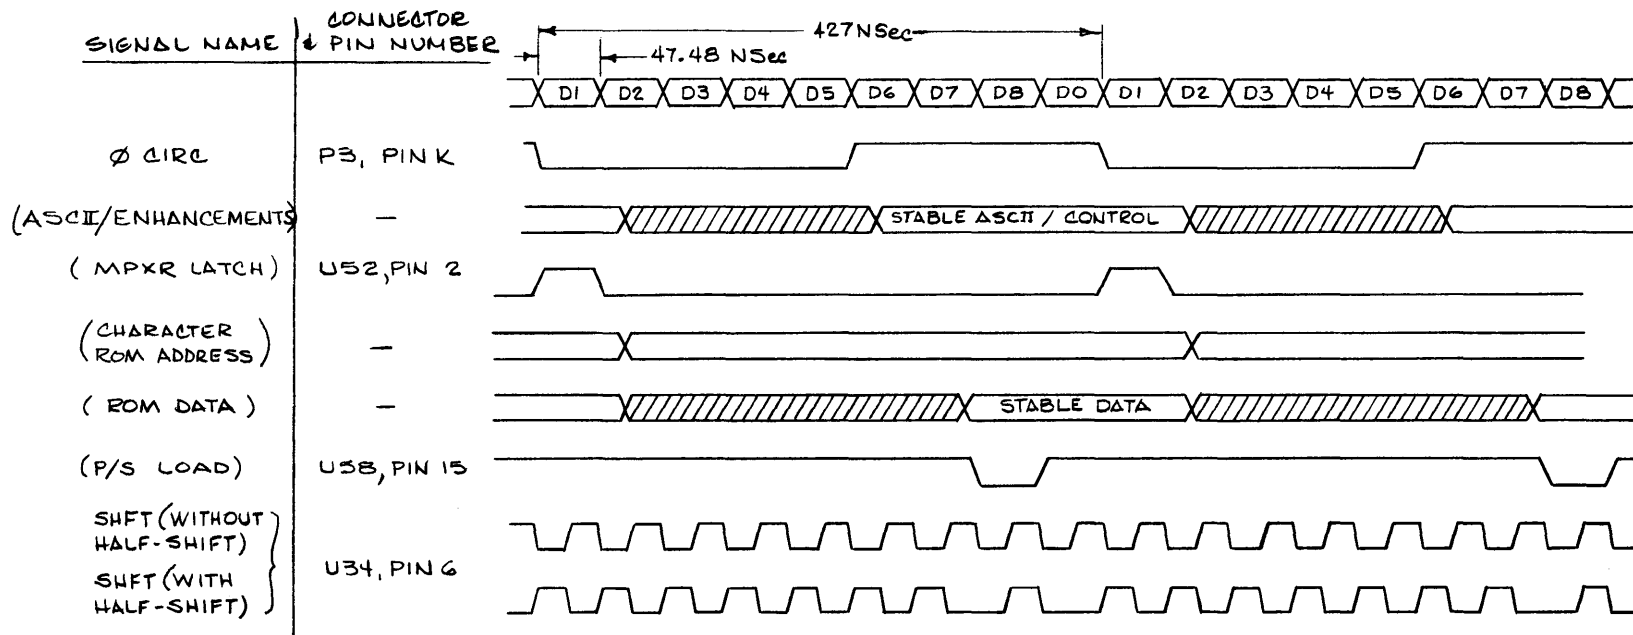
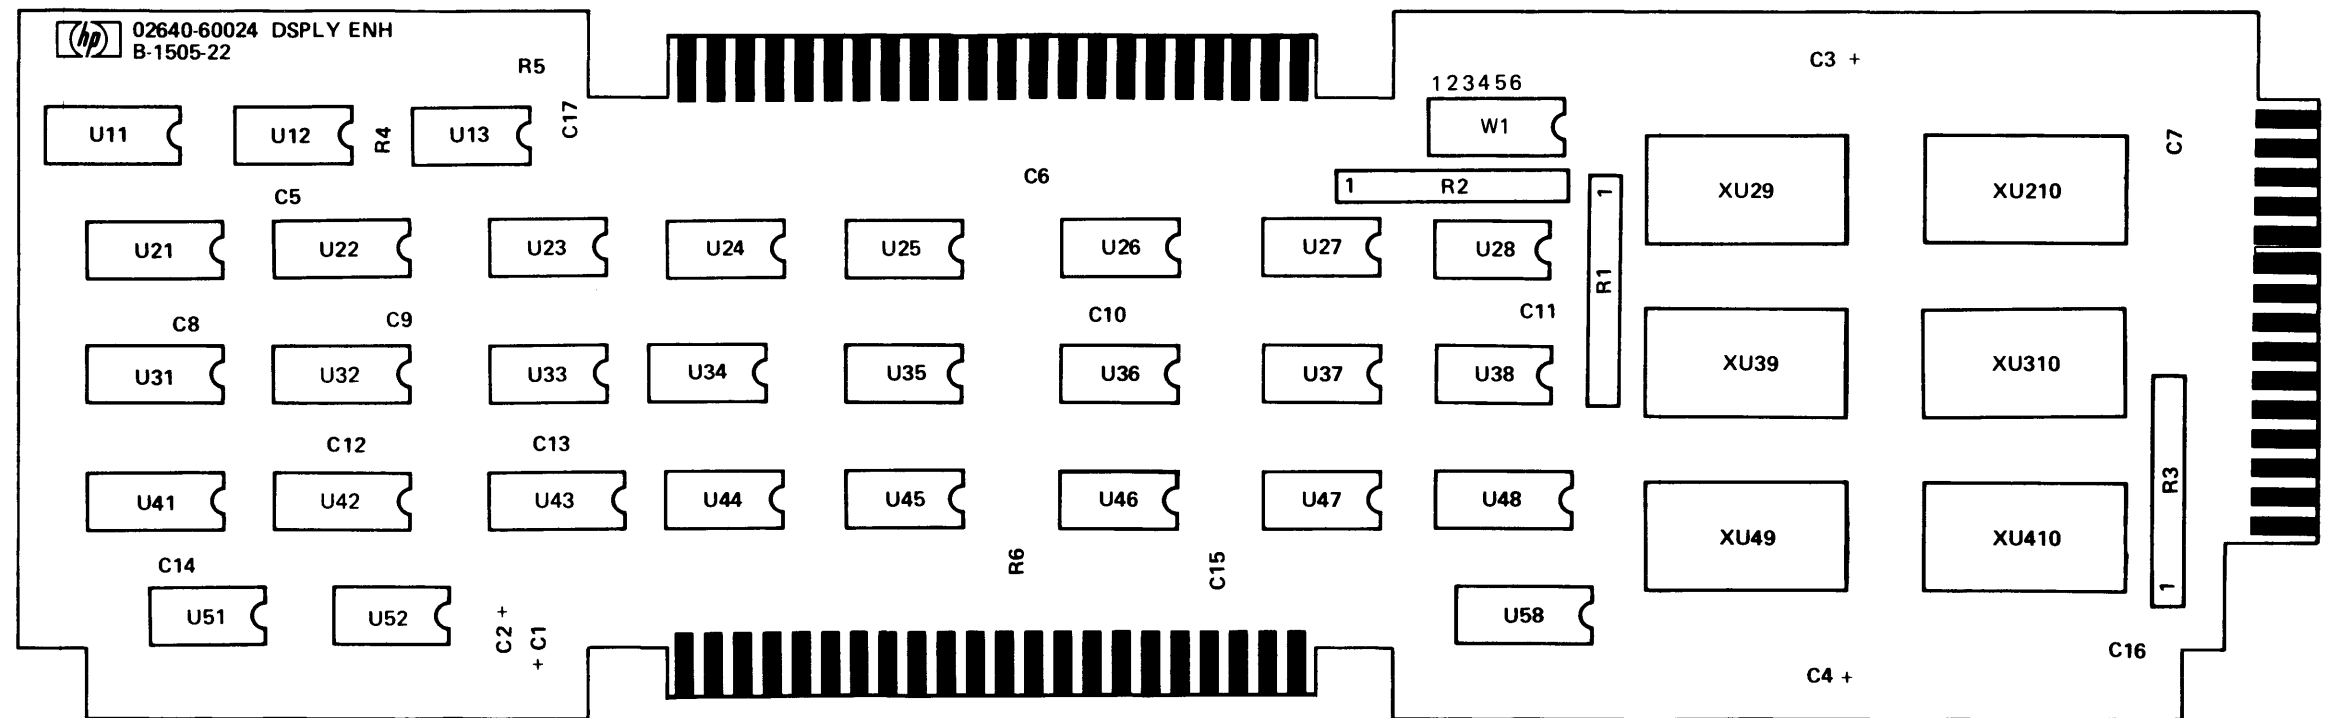

Figure 3
Figure 4
- 3.0 FUNCTIONAL DESCRIPTION. Refer to the block diagram (figure 1), schematic diagram (figure 2), timing diagram (figure 3), component location diagram (figure 4), and parts lists (02640-60022 and 02640-60024) located in the appendix.